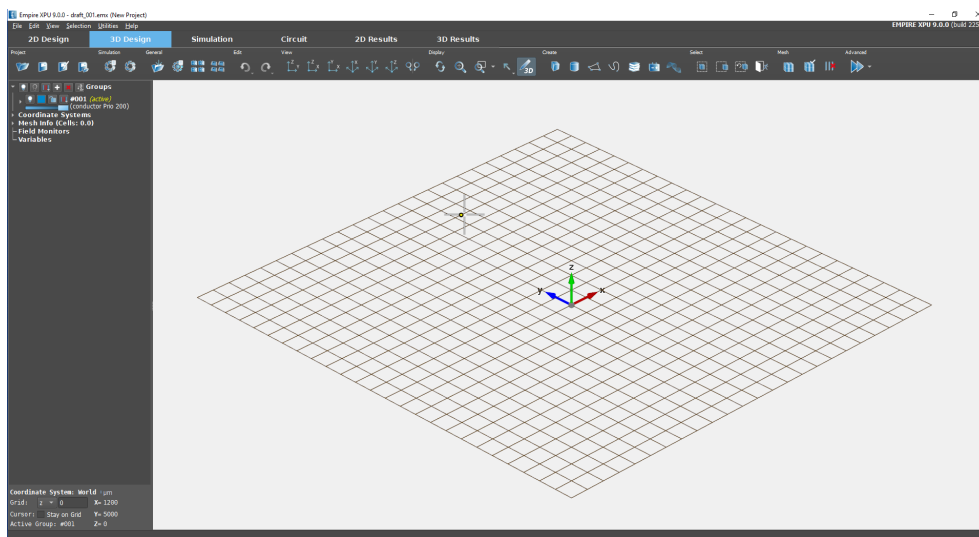

Figure 12.2.: EMPIRE XPU™ started from scratch
- If **New Project** is selected EMPIRE XPU™ is started from scratch and the window as displayed in figure 12.2 is opened. By clicking on a button in sections **Getting Started** or **Application Notes**, hyperlinks connect to manual documents or the EMPIRE XPU™ You Tube channel with a collection of video tutorials.